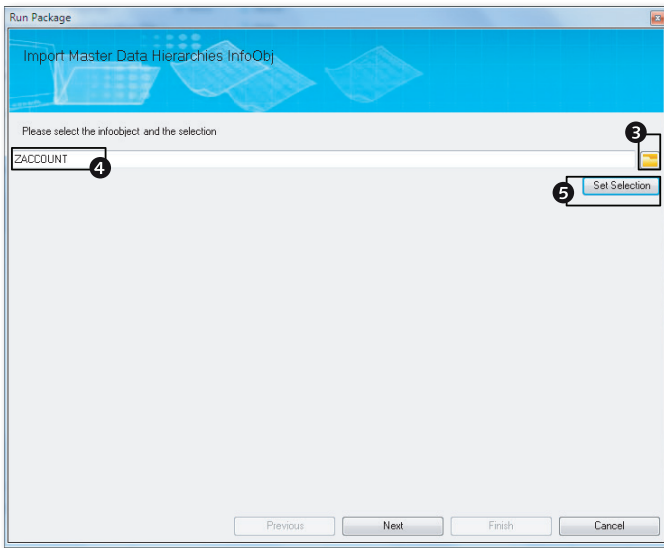

Figure 4.45 Loading Hierarchy Data from an InfoObject into a Dimension—Part D
6. Similar to loading the master data from a BW InfoObject, select the InfoObject for loading the hierarchy data. Click on the dimension selection icon to open the dialog box to select a dimension (Figure 4.45, ❸). The dimension selected in the SELECT DIMENSION dialog box is transferred as the source InfoObject for the load (Figure 4.45, ❹). Click on SET SELECTION to select the selection for hierarchy data (Figure 4.45, ❺).